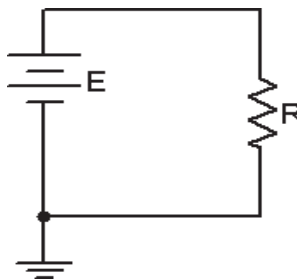

Figure 4.1
1. Build the circuit of Figure 4.1 using the 1 kΩ resistor. Set the DMM to measure DC current and insert it in-line between the source and resistor. Set the source for zero volts. Measure and record the current in Table 4.1. Note that the theoretical current is 0 and any measured value other than 0 would produce an undefined percent deviation.